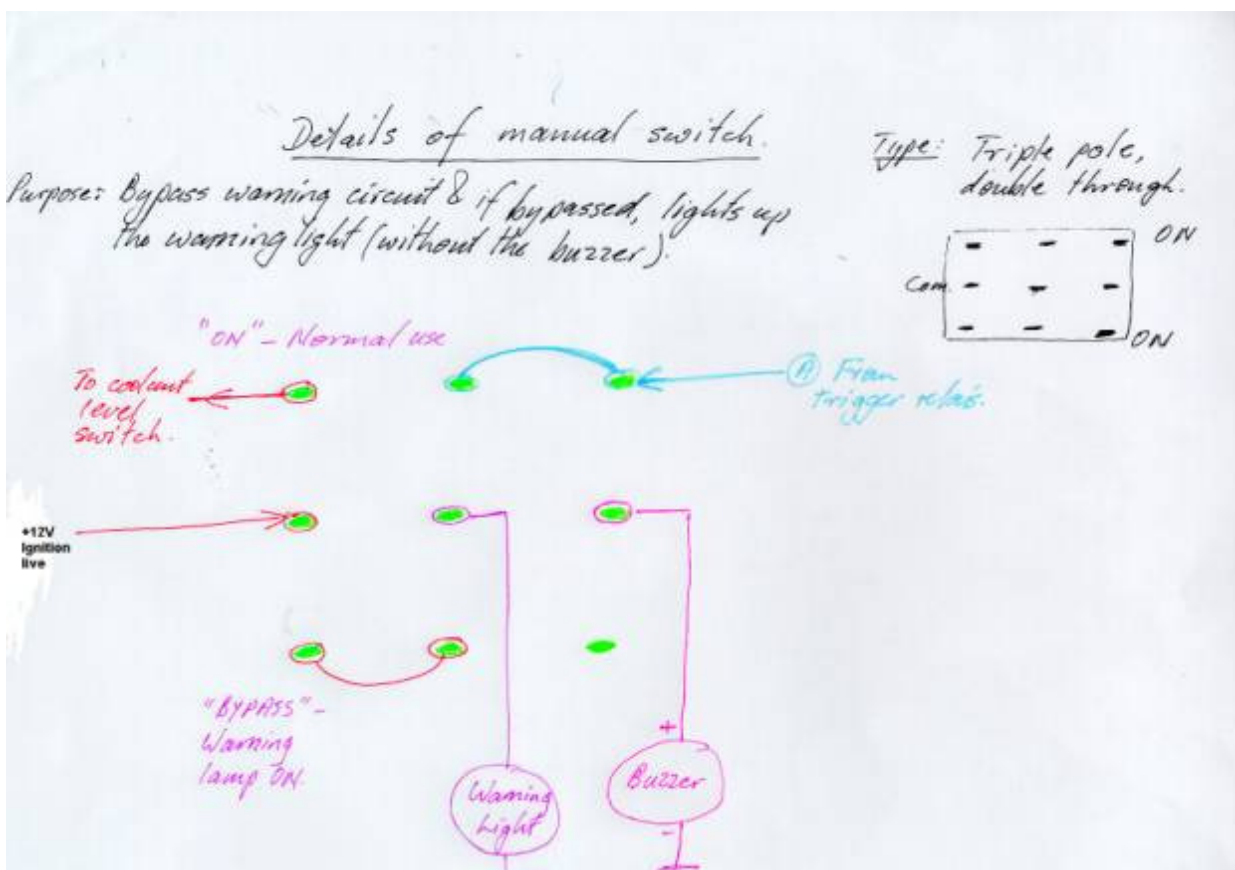

Figure 3: Details of switch connections.
The first difference is the compound switch (called a triple pole, double through switch). This switch has two functions, namely (a) to bypass the warning circuit which enables you to switch it off if it malfunctions or if you choose to drive with a low expansion tank coolant level and (b) to warn you that the warning circuit is bypassed in case you forget to re-set it. It achieves (a) by simply not powering up the float level sensor and consequently not the relay. It achieves (b) by powering the dash warning light (but not the buzzer) when it is in the "off" position. Consequently the dash warning light is on also when the warning circuit is "Off", but the buzzer and the dash warning light are both on when the coolant sensor senses low coolant (or if there is short on that circuit). Note the connections between the different terminals on the switch. The centre or "common" terminals are used for (1) the +12V power supply (2) the + terminal for the dash warning lamp and (3) the + terminal for the buzzer. More details on this are given in Figure 3 below.